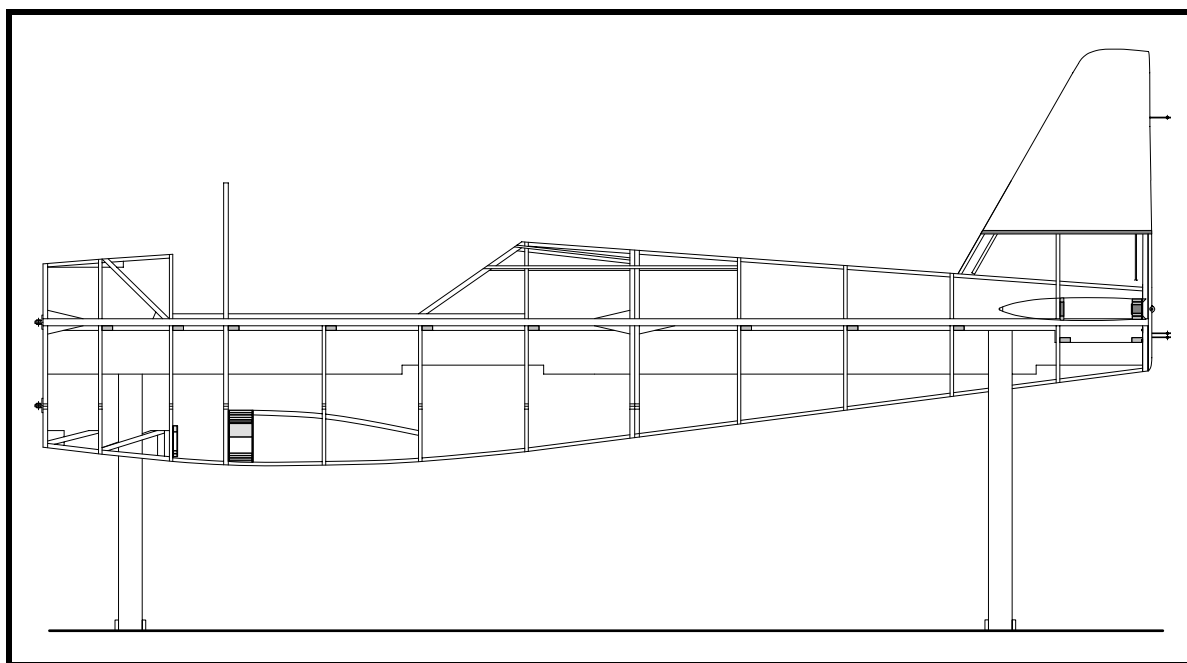

Figure 4
- ❑ Fit and glue in place the extra blocking for the forward end of the nose gear bay. See Figure 4. These are not dimensioned on any drawing, but we suggest that the blocking end 70mm aft of the aft face of frame No. 1.